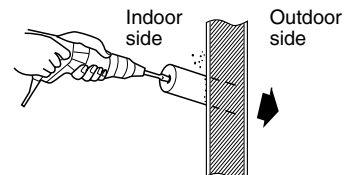

Fig. 3-16
- (3) Before drilling a hole, check that there are no studs or pipes behind the determined location. The above precautions are also applicable if tubing goes through the wall in any other location.
- (4) Using a sabre saw, key hole saw or hole-cutting drill attachment, make a hole (dia. 80 mm) in the wall. (Fig. 3-16)